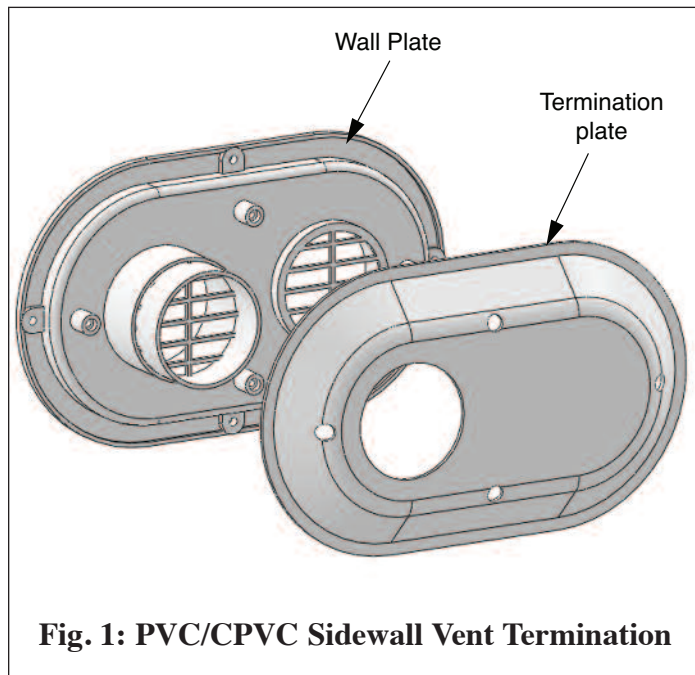

Fig. 1: PVC/CPVC Sidewall Vent Termination
9. Install the termination plate onto the wall plate as shown in Figure 1 using the screws supplied with the vent termination.